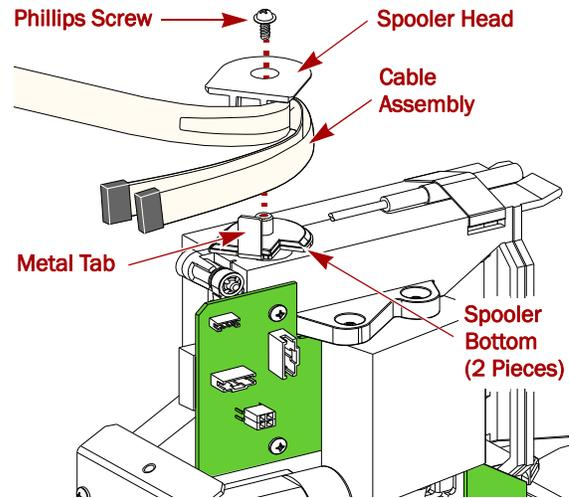

Figure 8. Removing the Cable from the Spooler Head
2. Use the Phillips screwdriver, unscrew and detach the **spooler head** leaving the cables attached (Figure 8).
2. Slide the **spooler head** onto the bottom pieces, aligning the flat side slot with the metal tab (**Figure 8 on page 3**).